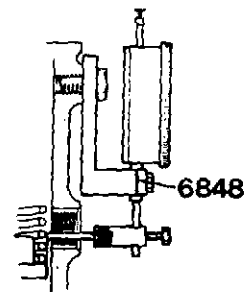

Fig. 4
- Tool: 9996848-9: Fit the tool and dial indicator according to Fig. 4. Adjust the measuring point until it makes contact on the lifter.